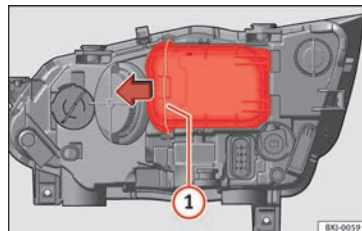

Fig. 111 In the engine compartment: remove the lid.
- Move the loop » **Fig. 111 1** in the direction of the arrow and remove the cover.